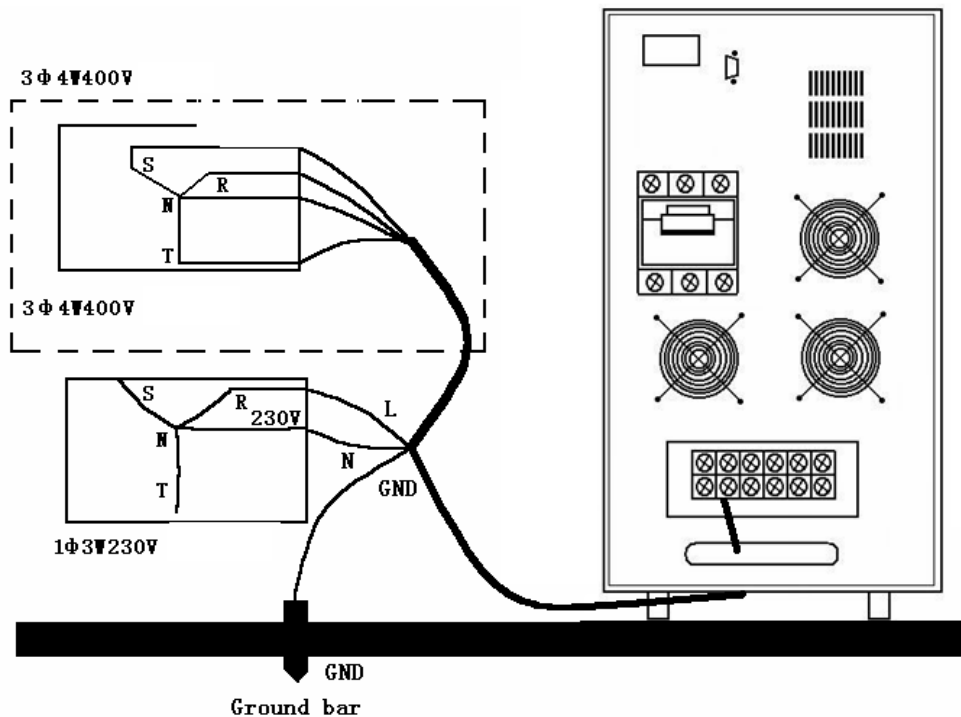

Fig10
(1) Caution
- b. Do well to ground connection, be grounded on refer to point. Will grow ups interference and data fault because of not good ground wire, influential at UPS and computers. Joint ground, refer to Fig10.